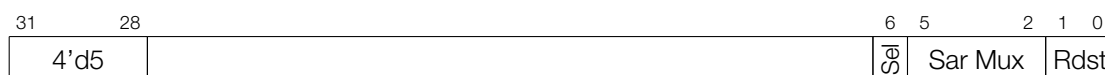

Figure 152: Instruction Type — ADC
**Operand**    **Description** - see Figure 152